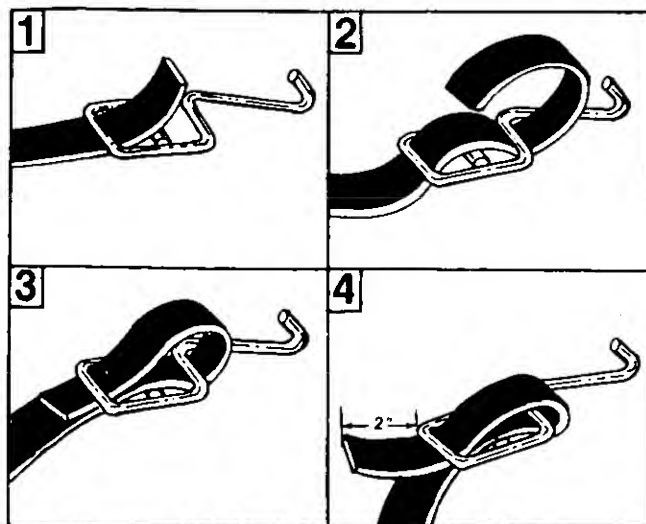

FIGURE 6.
4. Assemble one battery strap hook to each end of the battery strap as shown in figure 6. Adjust the strap so there is about 2" of strap beyond the hooks.